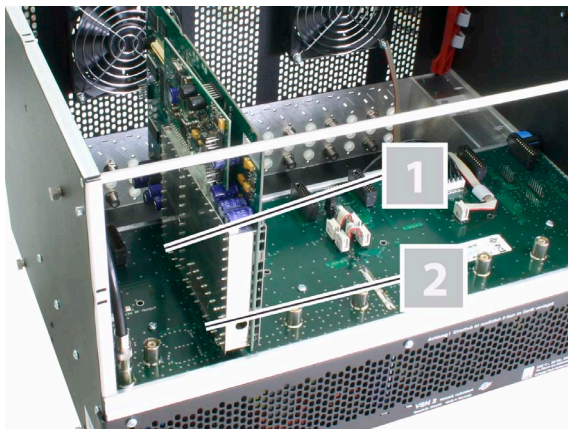

Figure 4: Plug-in card fitted in base unit
Figure 4 shows the plug-in card once it is fitted.
1. Plug the IEC connector [1] and the contact strip connector [2] (see left) into one of the slots in the base unit, as shown in Figure 4. Each mounting slot for a plug-in card in the base unit comprises the mating connectors to fit those on the card (i.e. an IEC socket and a contact strip socket).